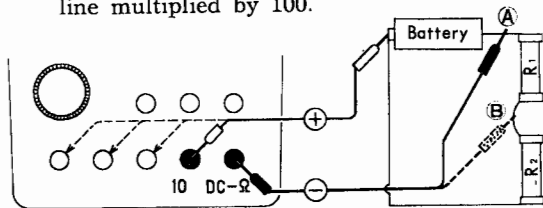
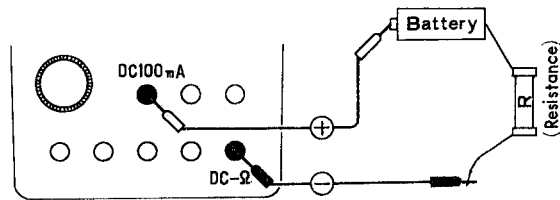

Fig. 1
Fig. 3
- The test leads are connected to the meter as shown in Fig. 1.
- a. The test leads are connected to the meter as shown in Fig. 3. The circuit to be checked must be opened and the meter is connected in series with it taking note of the polarities. If they are connected in parallel by mistake (A or B of Fig. 1), the meter will be overloaded causing damage to the movement or shunt.